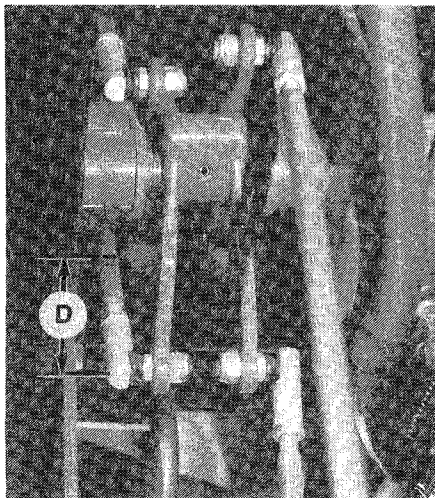
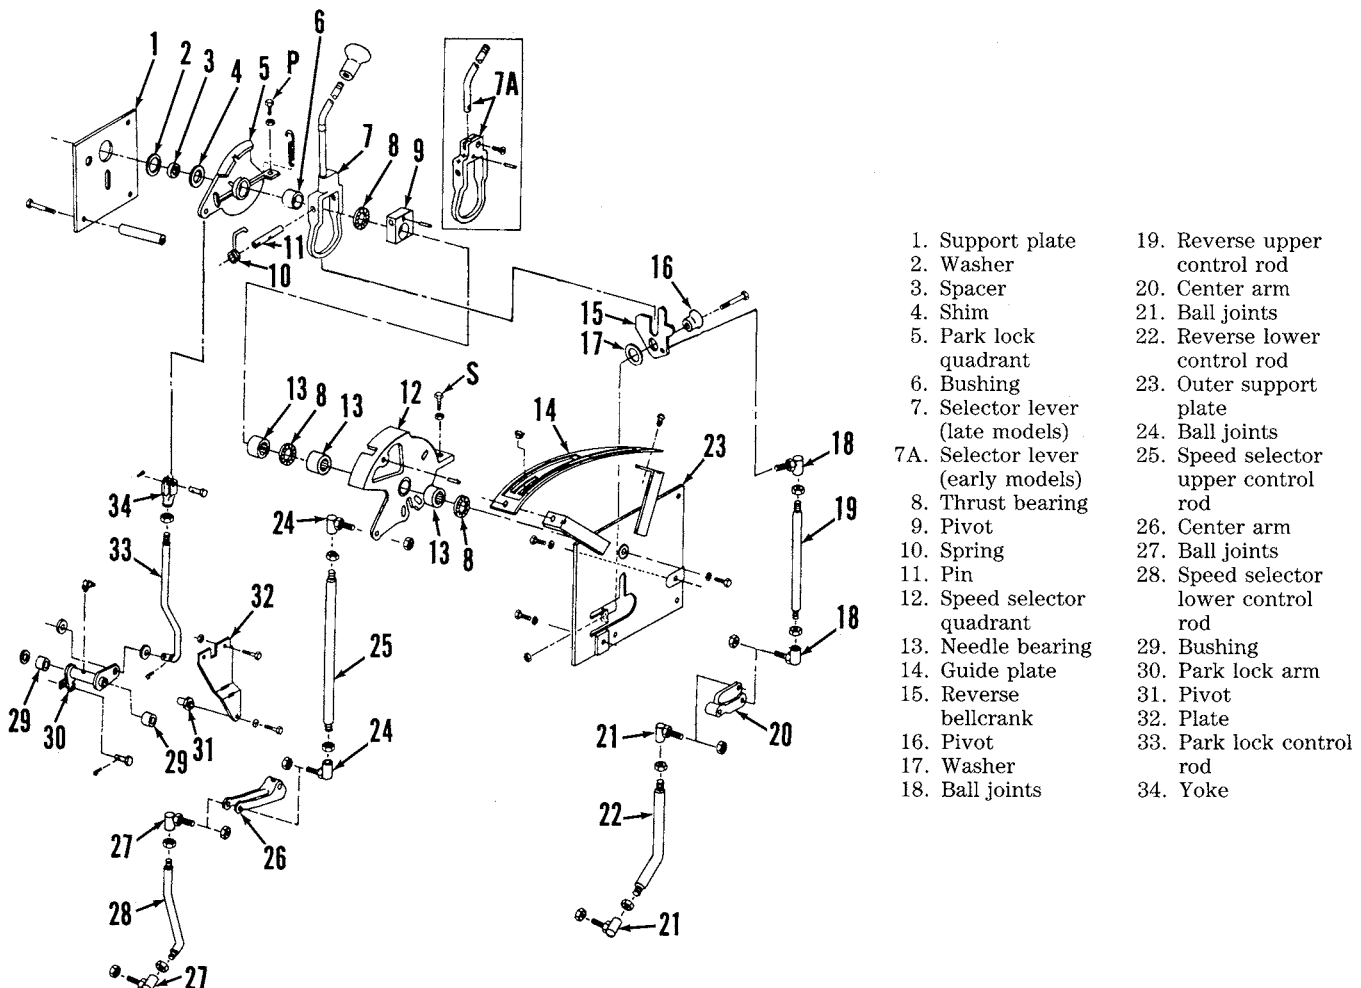

Fig. 142—View of speed selector upper control rod and center control arm. Refer to text for dimension (D) and adjustment procedure.
Fig. 144—Exploded view of Power Shift control lever and associated parts.
Position selector lever between neutral-reverse and neutral-forward positions and measure clearance (C—Fig. 141) between front side of lever and edge of guide plate. Clearance should be 0.1 inch (2 mm). If necessary, adjust speed quadrant stop screw (S—Fig. 144) to obtain correct clearance. Be sure selector lever moves freely from side to side in neutral position.
If lever drags, adjust park lock quadrant stop screw (P—Fig. 144) to align quadrant slots.
Speed selector upper control rod (25—Fig. 144) length should be exactly 20.5 inches (521 mm), measured from extreme ends of ball joints, for proper operation of transmission control assembly. To accurately measure control rod length, cut a length of small diameter rod (such as brazing rod) to exactly 16-7/8 inches (429 mm). Remove console cover and position selector lever in 15th speed position. Align end of brazing rod with top of upper control rod ball joint, then place a mark on control rod even with bottom end of brazing rod. Move speed selector lever back to neutral-forward position. Measure distance (D—Fig. 142) from mark on control rod to end of lower ball joint. The distance should be 3-5/8 inches (92 mm). Adjust rod length as necessary.
Disconnect lower control rods (22 and 28—Fig. 144) from center control arms (20 and 26). Rotate speed control arm on transmission control valve to lowest
Rotate direction control arm on transmission control valve to uppermost detent position. Connect lower control rod (22—Fig. 144) to center control arm (20). Insert a 0.020 inch (0.5 mm) feeler gage between outer side of quadrant slot and outer side of selector lever. With lever secured in this position, adjust ball joint on lower control rod until it fits freely into control valve arm. Be sure that the lever engages full de-
123. R&R AND OVERHAUL. To remove speed selector assembly, remove console wrap-around cover. Open small access door on right side of cab. Remove latch peg and four plastic plugs, then pull panel away from side of cab, but do not remove. Remove three mounting cap screws from outside of cab. Place selector lever in 7th speed, then pull shift indicator assembly up and remove. Disconnect control rod from throttle lever and remove throttle lever mounting cap screw. Disconnect park lock control rod yoke (34—Fig. 144). Remove cap screws securing inner plate (1) to cab. Remove cap screws securing control rod rubber boot plate to floor. Disconnect upper speed control arm (25) and reverse control rod (19) from center arms (20 and 26). Remove cap screw securing outer support plate (23), then remove shifter assembly.